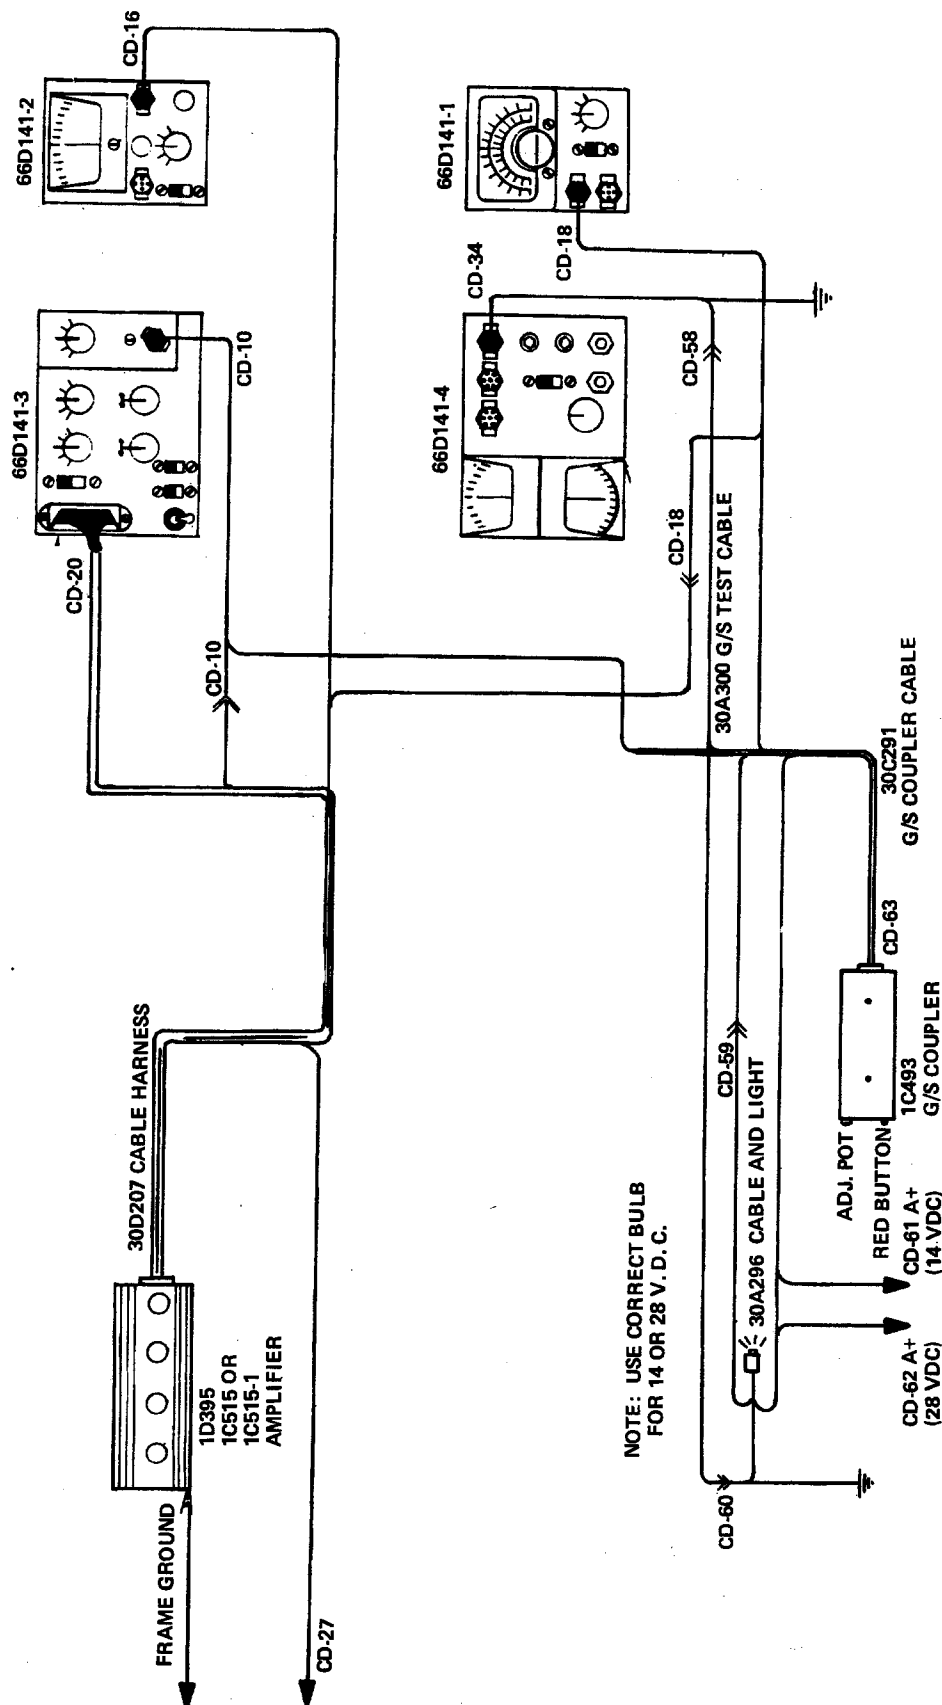

FIGURE 4-18
1. Connect the glide slope coupler as shown in Fig. 4-18.